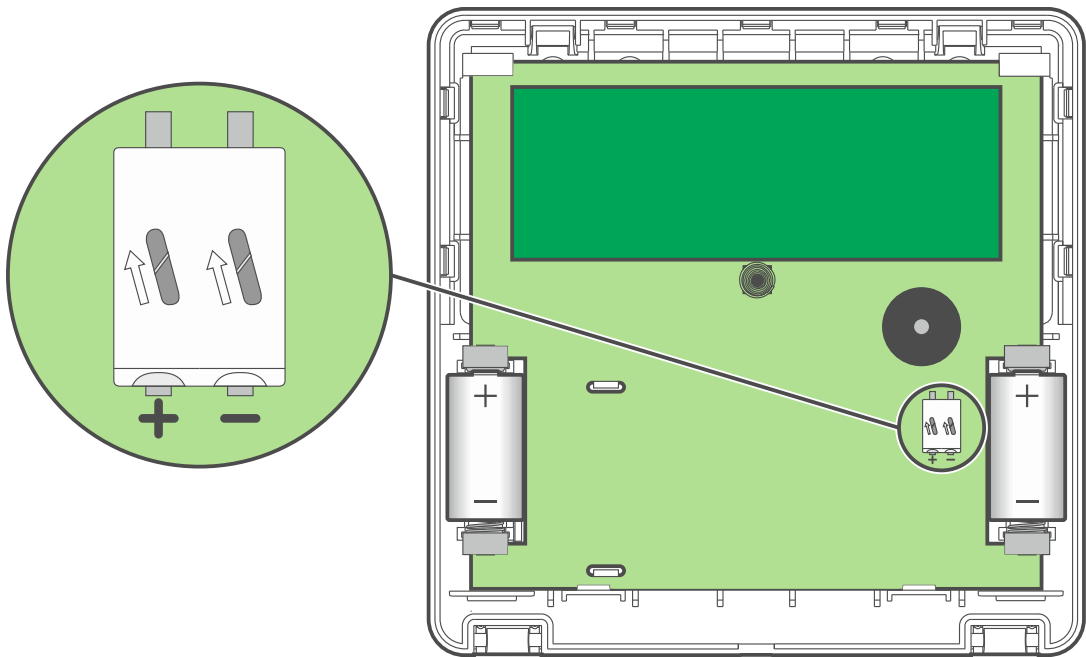
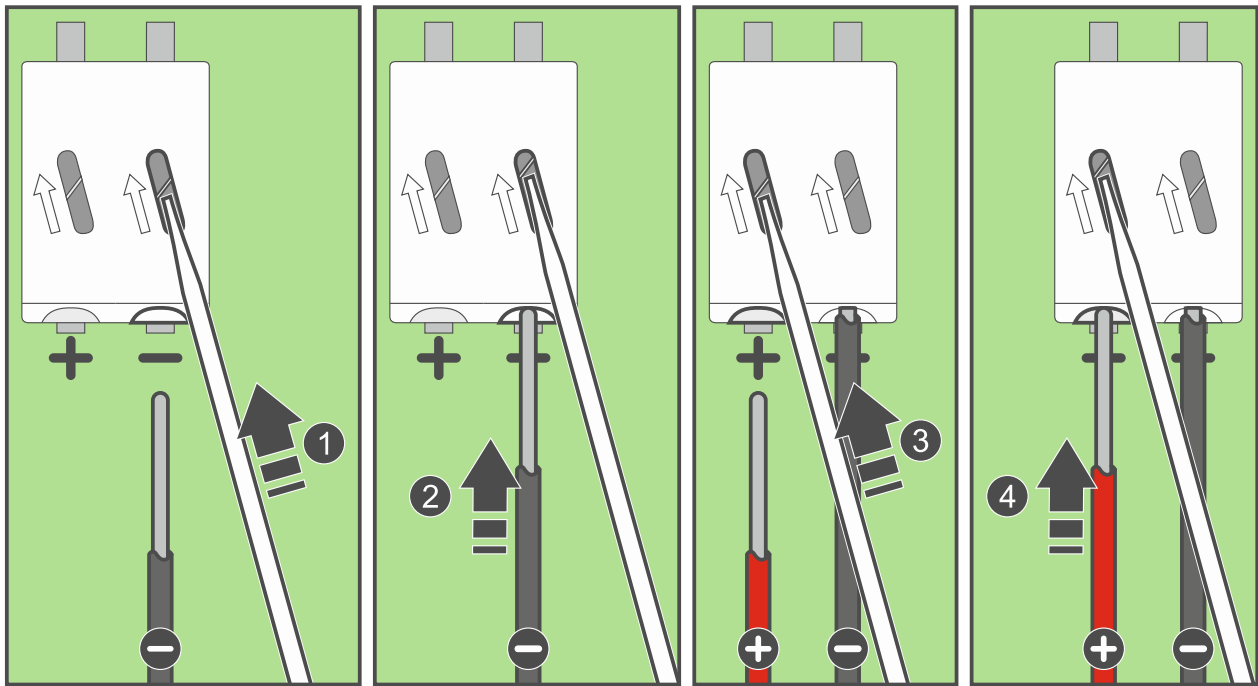

Fig. 3. Keypad enclosure inside with batteries installed.
Fig. 4. Connecting the power wires.
11. If the APS-055 power supply is to be used, connect the power wires to the “+” and “-” terminals (Fig. 3). For how to connect the wires, see figure 4. Use a 1.8 mm flathead screwdriver.